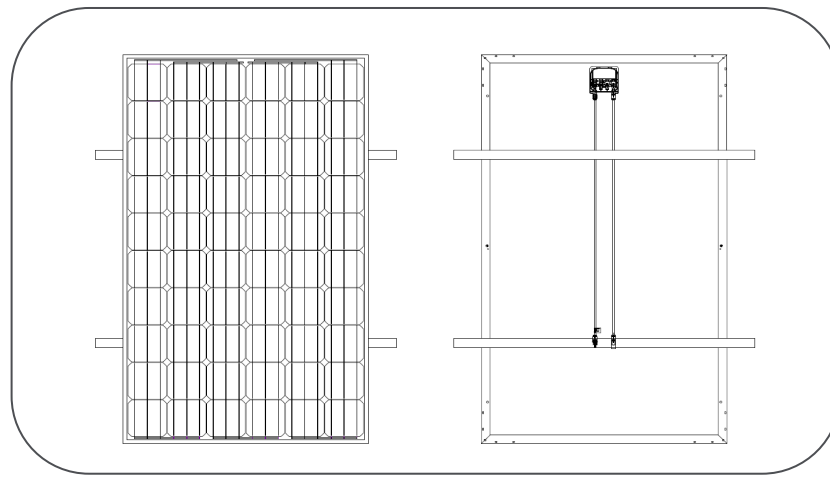

Figure 1 Top view and back view of module installed on a parallel mounting structure
- The clamping clips on the side frame must be in parallel – equidistant from the closest module frame corner (see Figure 1).